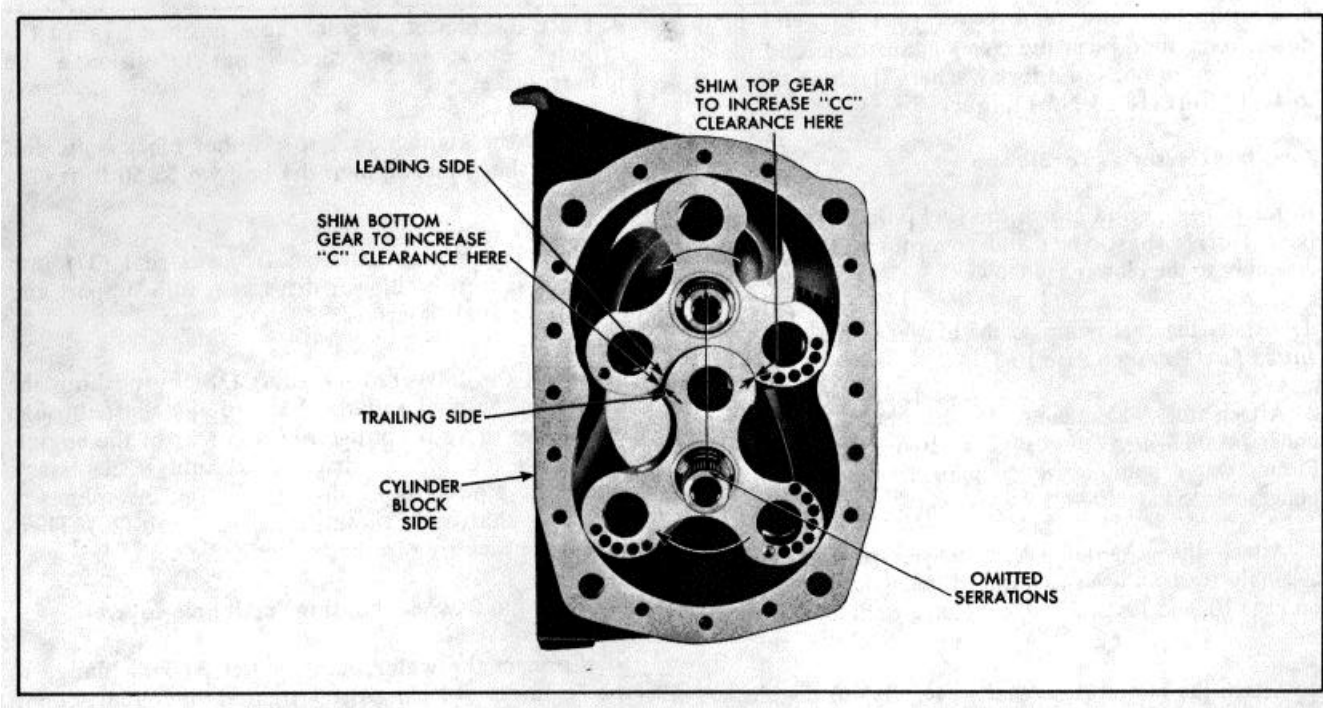

Fig. 18 - Diagram Showing Proper Location of Shims for Correct Rotor Lobe Clearances.
The rotors must be assembled in the blower housing with the omitted serrations in the rotor shafts aligned as shown in Fig. 18.
- a. Place an oil seal pilot J 6270-5 on the short (non-splined) end of each rotor shaft. Then, place the rotors in mesh with the omitted serrations in the shafts in alignment as shown in Fig. 18.
- b. Rotate the rotors to bring the omitted serrations on the shafts in alignment and facing the top of the blower housing (Fig. 18).
When rebuilding a blower with new rotors or new gears, first install the gears on the rotor shafts without the shims, then check the clearances between the rotors to determine the location and thickness of shims to be used; refer to Fig. 18.